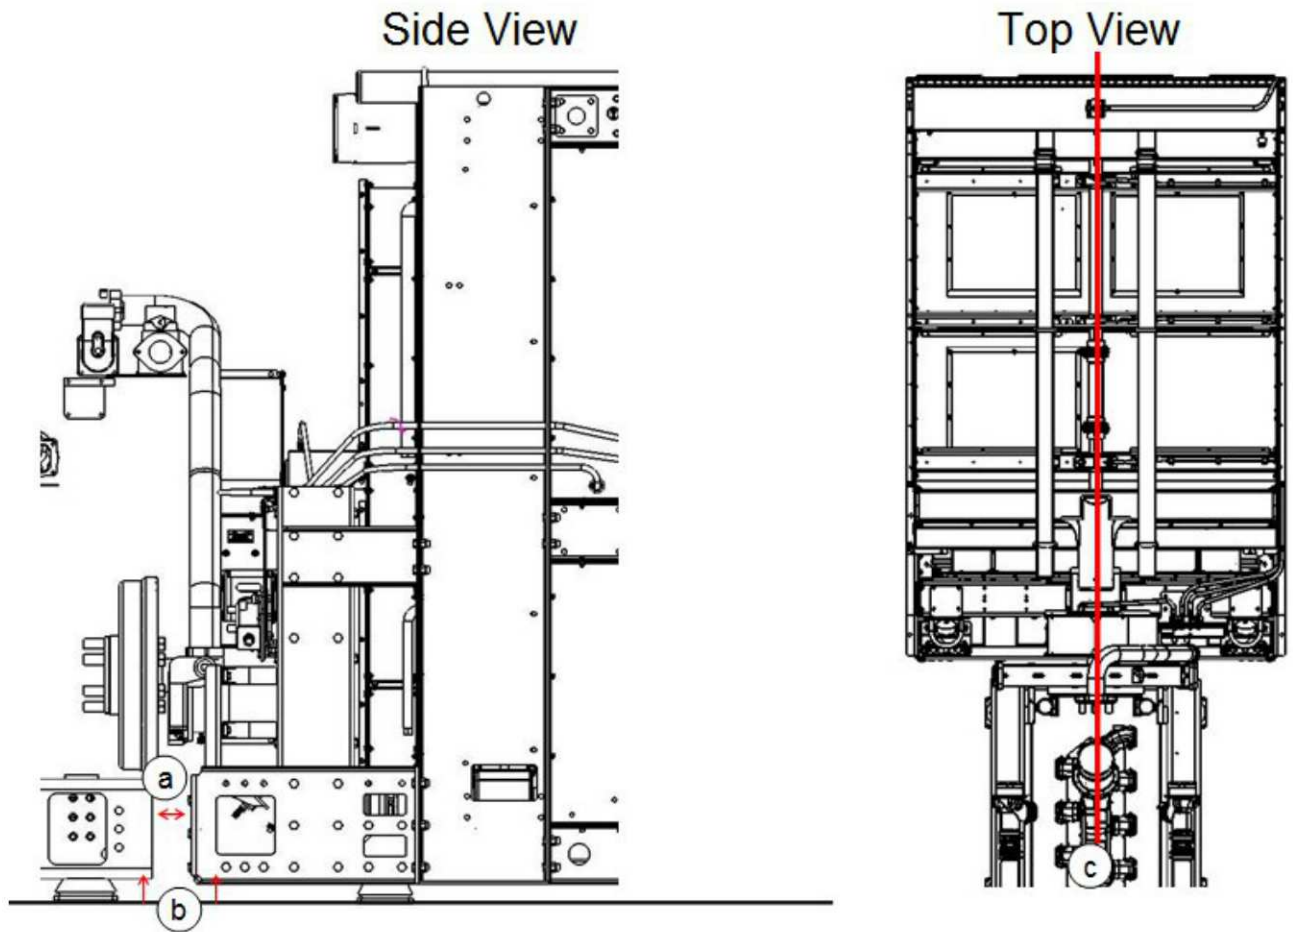

Figure 10: Radiator installation
- Install radiator per radiator drawing. Refer to **Figure 10** below. Pay particular attention to the following: